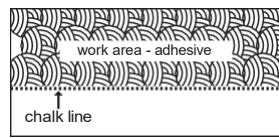

Figure 14
- Spread sufficient amounts of the recommended adhesive with the recommended trowel in an area that can be covered within the working time of the adhesive. Be sure not to spread adhesive too far ahead of your work area (Figure 14).